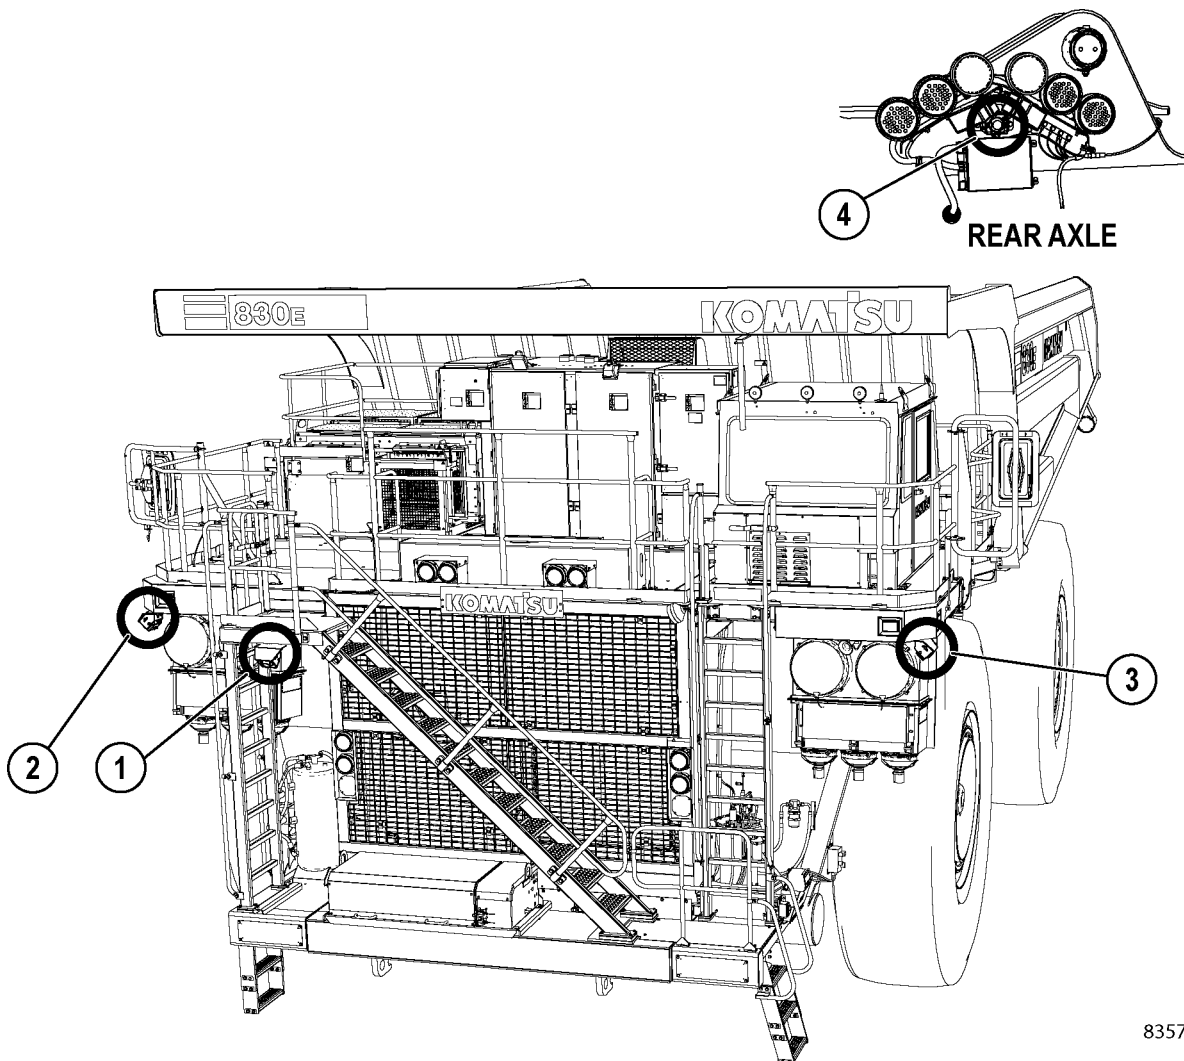

FIGURE 33-1. CAMERA SYSTEM
The camera system consists of four cameras mounted around the truck. There are three cameras on the front of the truck: at the right front corner (2, Figure 33-1), center (1) and left front corner (3). The fourth camera (4) is mounted on the rear axle housing looking behind the truck. A camera monitor (2, Figure 33-2) is located inside the cab to display camera images to the operator.
With the key switch ON, the camera switch ON, the truck stopped and the directional control lever in PARK, the camera system will power up and immediately display the view from front center camera (1, Figure 33-1). The number 1 will be shown in the upper left corner of the camera monitor.